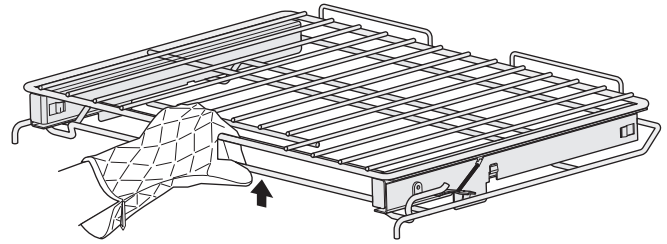

Figure 10: Extensible glide rack
1. Using one hand, reach through the handle opening and lift up on the release lever located across the lower front of the rack, as shown in Figure 10.